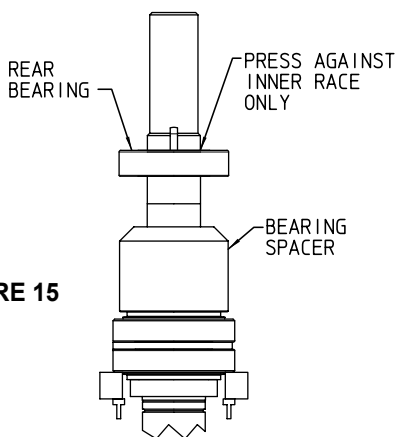

FIGURE 15
12. Use hydraulic press and V blocks to remove bearings and spacer. See Figure 15.
3. Coat rear bearing area on shaft with grease conforming to ISO 220, NLGI grade 2 or NSF USDA-H1. Slide rear bearing over shaft with shield side down. Press bearing onto shaft until it seats against spacer. See Figure 15.